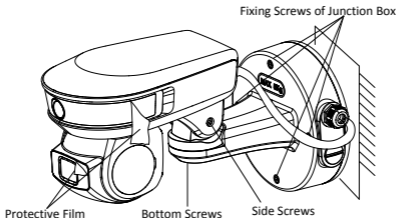

Figure 2-10 Fix the Junction Box
5. Align the bracket junction box with the base plate, and fix them with four M6*18 screws as shown in Figure 2-10.